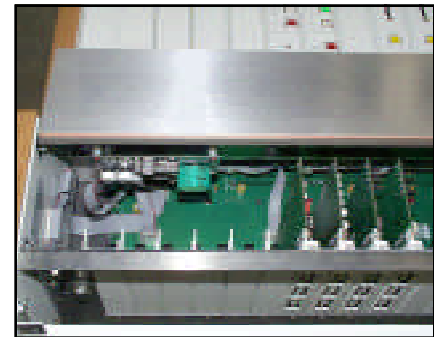

Figure 2. Open Shield Panel.
- Swing the shield panel to open (Figure 2).
- Replace the rear panel, plugging in its edgecard fingers to the appropriate motherboard edge connector (Figure 2), and tighten down the two retaining screws.